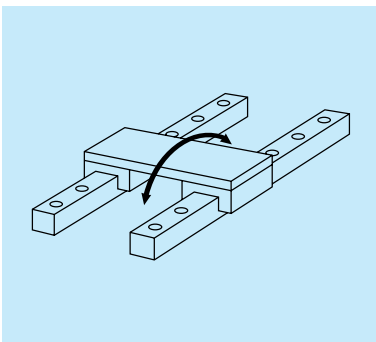

Fig. I-3-5 Pitching direction
(4) Selection based on the moment load per ball slide
- In cases shown in Fig. I-3-5 to •6, •7, it is necessary to consider the moment load applied to the ball slide.